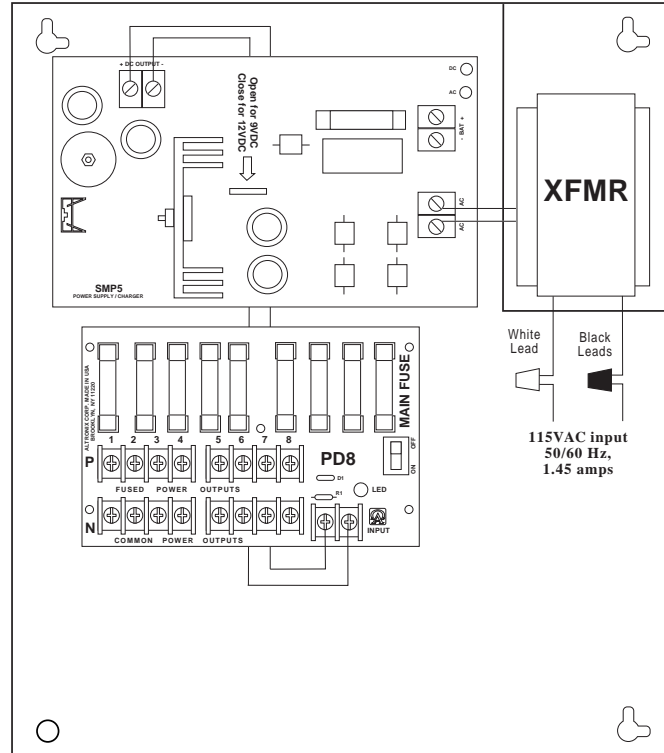

Fig. 1
- Eight (8) individual fuse protected outputs.
- Output fuses are rated at 3.5 amps / 250VAC (Fig. 1).
- Main fuse is rated at 5 amps / 250VAC (Fig. 1).
2. Slide switch SW1 (Fig. 1) to OFF position.
3. Set the ALTV129-DC to desired DC output voltage by setting switch (SW1) (Fig. 1) on the power supply board to the appropriate position (see power supply output specification table).
4. Connect the AC power to the black and white flying leads of the transformer (Fig. 1).
5. Connect each DC device to terminal pairs 1 to 8, marked [1P-1N thru 8P - 8N] (Fig. 1) carefully observing correct polarity.
6. When batteries are being used the DC output voltage must be adjusted by turning the trim pot UR1 (Fig. 1) clockwise to increase the output voltage to 13.7 VDC for 12 VDC operation and 27.1 VDC for 24 VDC operation. Connect battery to terminals marked [- BAT +] (Fig. 1) (battery leads included).
7. Slide switch SW1 (Fig. 1) to ON position.